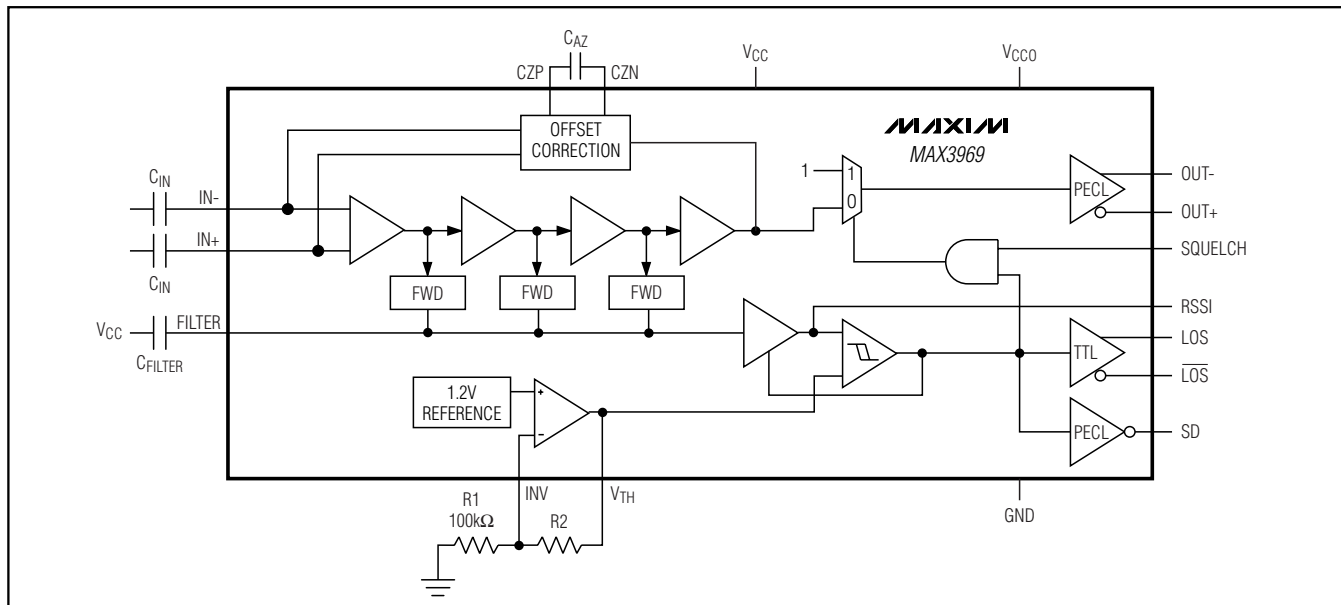

Figure 1. Functional Diagram
| 1       | INV              | Inverting Input of Internal Op Amp that Sets Power-Detect Threshold Voltage (Figure 1). Connect a resistor from $V_{TH}$ to INV ( $R_2$ ), and from INV to ground ( $R_1 = 100k\Omega$ ), to program the desired threshold voltage.                                            |
| 20     | V TH | Output of Internal Op Amp that Sets Power-Detect Threshold Voltage (Figure 1). Connect a resistor from V TH to INV (R2) and from INV to ground (R1 = 100k $\Omega$ ), to program the desired threshold voltage.                                 |
The MAX3969 contains a series of limiting amplifiers and power detectors, offset correction, data-squelch circuitry, TTL buffers for LOS outputs, and PECL output buffers for signal detect (SD) and data outputs. See Figure 1 for the functional diagram.